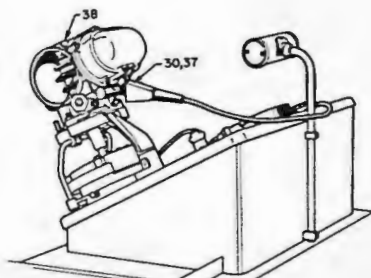

Fig. 8
- 30 Connect positive low tension lead to right hand condenser terminal (Fig. 8).